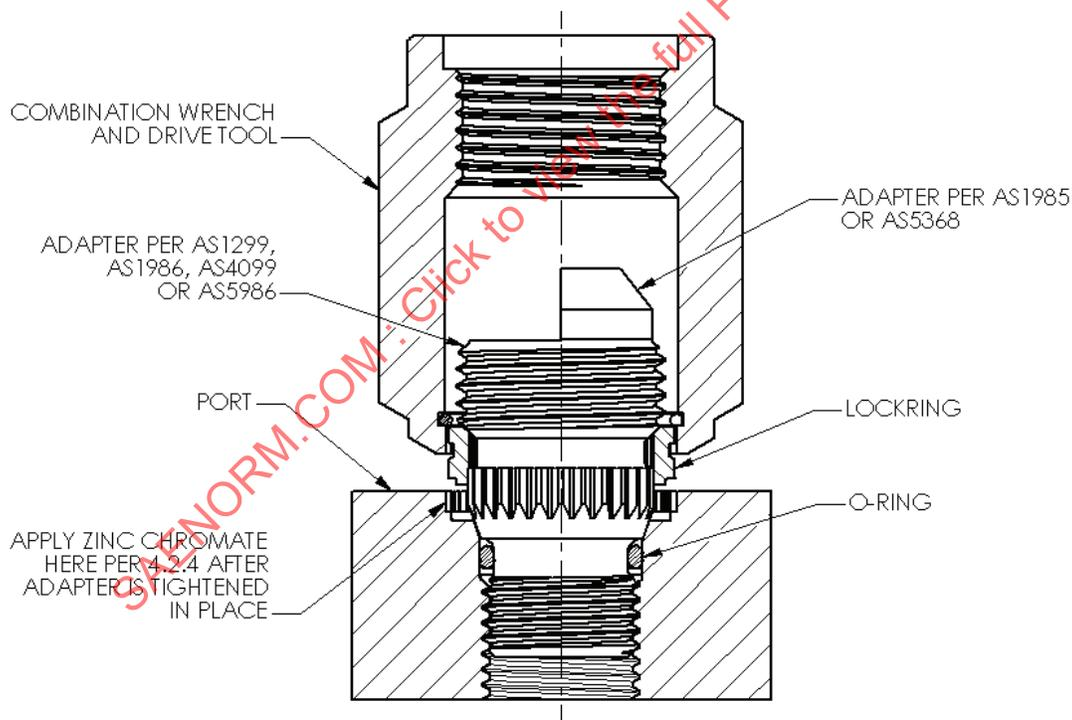

FIGURE 3 - TORQUING ADAPTER ASSEMBLY
5.2.3 Using the applicable combination wrench and drive tool in Table 3, engage the serrations of the tool with the external serrations of the adapter locking per Figure 3. Place a torque wrench of the proper size over the hex of the wrench and apply a torque equal to the minimum value specified in Table 3. Note the relationship of the locking serrations with respect to the prebroached serrations in the port. If they match, proceed to 5.2.4. If the locking serrations do not match the prebroached serrations in the port, continue to slowly torque the adapter toward the maximum value allowed in Table 3 until the serrations match. This will normally take between 3 degrees and 8 degrees of turning, the maximum value need not be reached if the serrations align themselves prior to that value. Do not exceed maximum torque values.